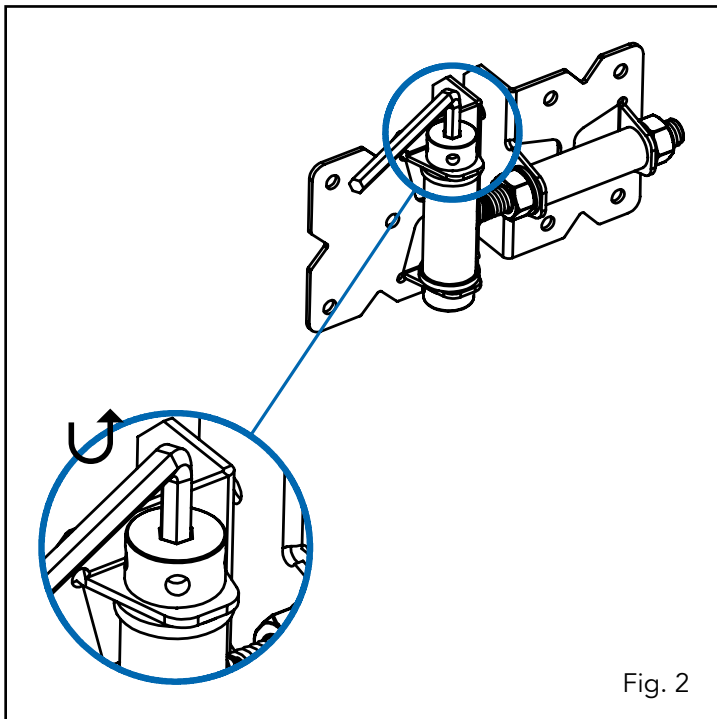

Fig. 2
2. Rotate the hex wrench counter-clockwise. (Fig. 2)